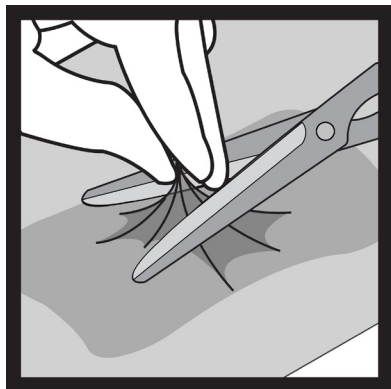

Figure 11
11. Cut a 1cm diameter hole in the top of the drape at a convenient location over the dressing by pinching and lifting the drape (**Figure 11**).
4. Cut a 1cm diameter hole, at a convenient location, by pinching and lifting the top layer of the dressing. (**Figure 11**).